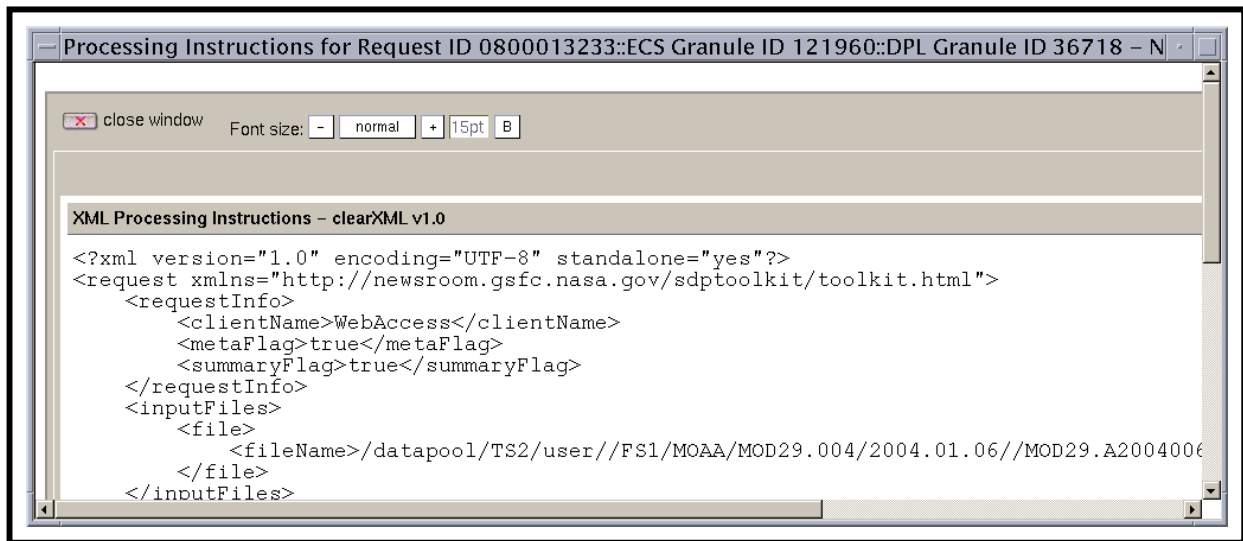

Figure 46. Processing Instructions Window
- For example, clicking on the **View...** [processing instructions] link associated with Granule ID **121960** brings up a window containing the **Processing Instructions for Request ID 0800013233::ECS Granule ID 121960::DPL Granule ID 36718** (Figure 46).